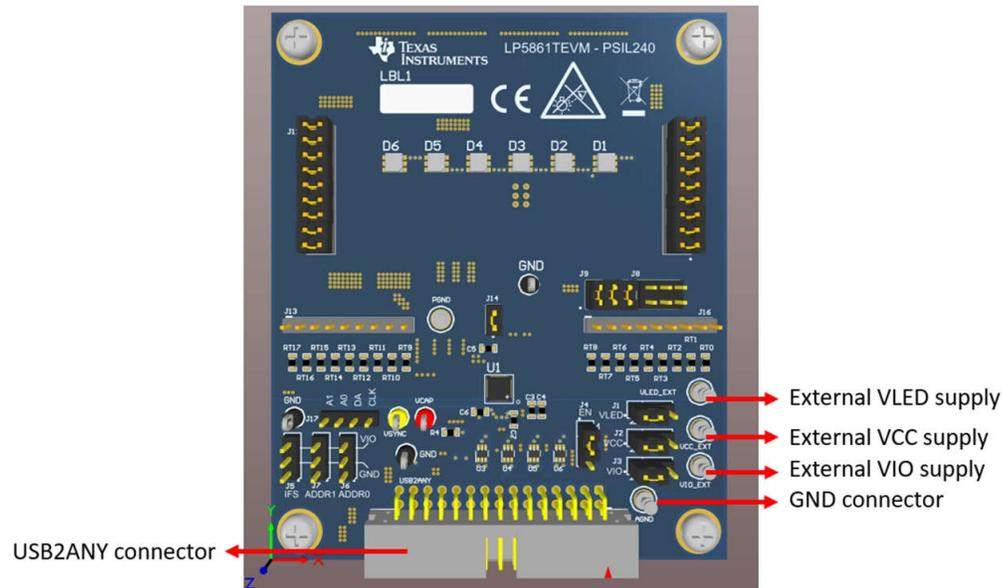

Figure 2-3. Key External Connectors
2. Connect a 5-V external power supply to the VLED_EXT terminal (see Figure 2-3) and connect the switching jumper (J1) to another side.